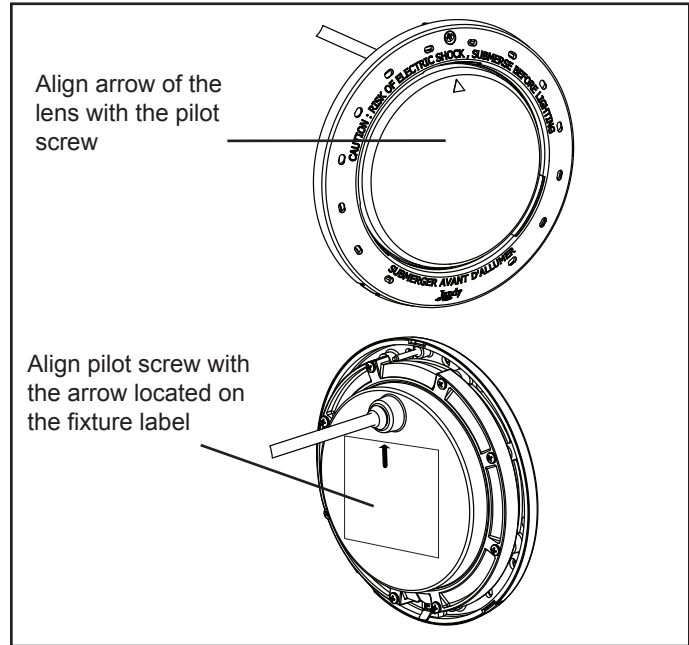

Figure 9. Alignment of the Lens, Face Ring, Housing and Clamps for White LED Lights
- Position the lens and gasket on the fixture. Place the face ring assembly over the lens and align the pilot screw with the small arrow mark on the face of the lens. Note that the small arrow mark on the face of the lens and the pilot screw of the face ring must be aligned with the arrow located on fixture label that reads, "Arrow on this label must line up with the pilot screw on the Face Ring". See Figure 9.
- Tighten the Phillips head screws (eight (8) for large light and six (6) for small light) on the light in alternating cross-pattern. Torque screws to approximately 25 in-lbs.
- Coil the extra four (4) feet of cord around the fixture or into the base of the niche and place the light assembly into the niche.